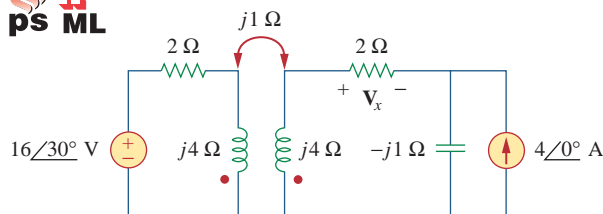

Figure 13.78
- 13.9** Find V_x in the network shown in Fig. 13.78.